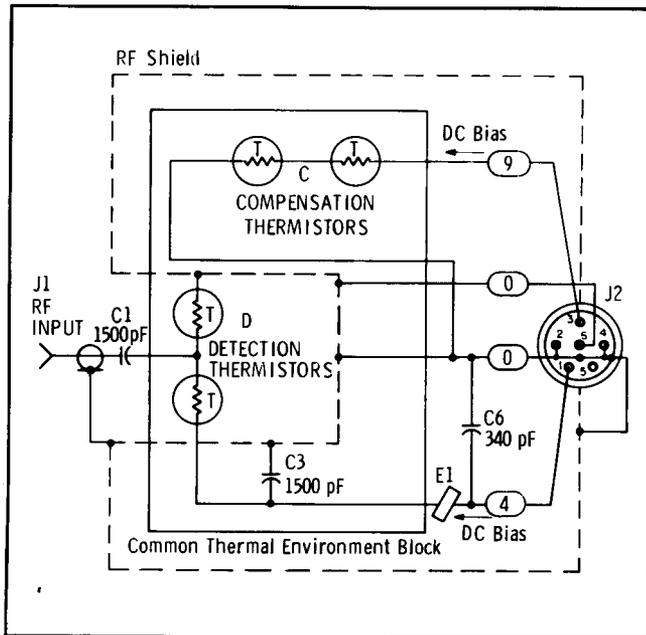

Figure 4. 8478B Connected to a 432A Power Meter
65. Under normal operation, the total power applied to heat thermistor pair "D" (see Figure 4) consists of: 1) RF signal, 2) heat from the environment, and 3) dc bias. The total power supplied to heat thermistor "C" consists of: 1) dc bias, and 2) heat from the same environment. As "D" and "C" are matched thermally, the total amounts of heat applied to reduce their series resistance equally must be equal.